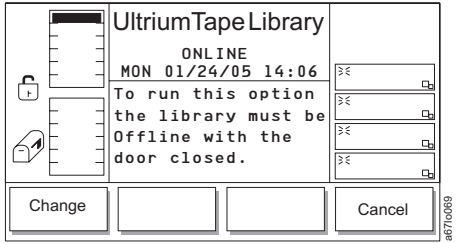

Figure 4-181. Library Submenu
2. Press the button below the **Library** softkey. The Library Submenu displays (see Figure 4-181 on page 4-100).